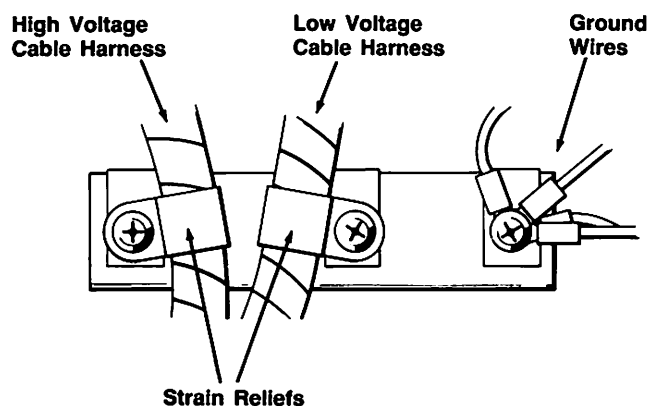

Figure 9-13
5. Insert the high and low voltage cables through the cabinet top and tilt mechanism. Position the high voltage cable on the left and the low voltage cable on the right (Figure 9-13).
6. Replace the two cable clamps and ground wires on the ground plate (Figure 9-13). Use the previously made pen marks for correct positioning.